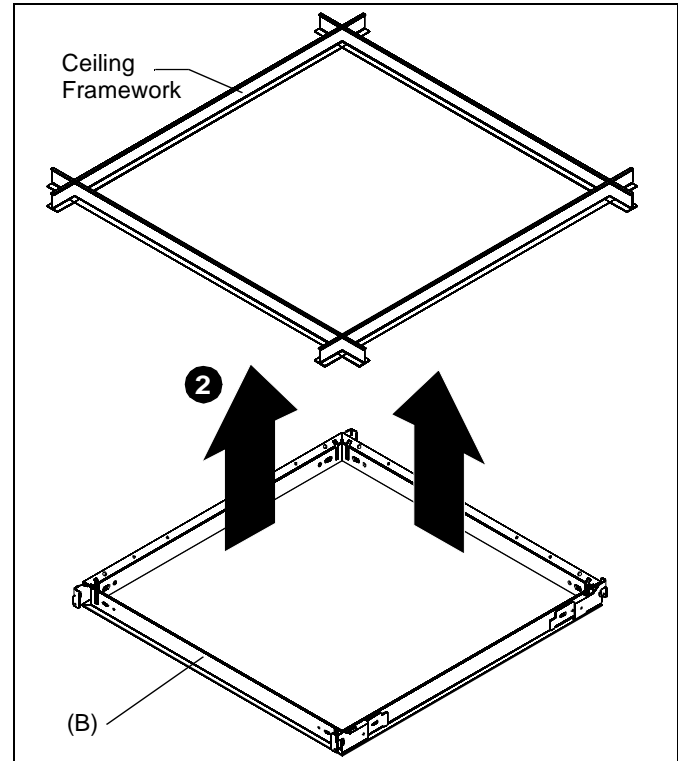

Figure 2
2. Insert SL220 frame (B) with attached brackets into the empty ceiling space. (See Figure 2)